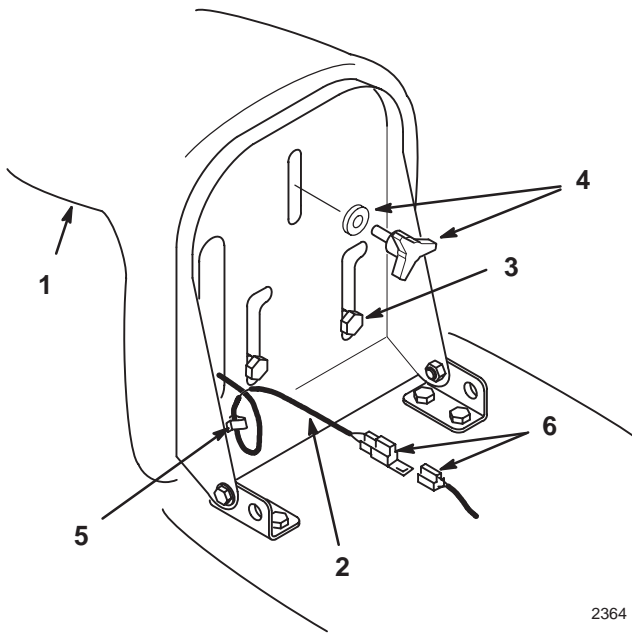

Figure 4
1. Insert the seat switch wire cable through the hole in the seat base (Fig. 4).
2. Position the seat onto the seat base by inserting the two shoulder bolts through the key hole openings at the end of both slots (Fig. 4).
3. Thread the knob and flat washer through the slot and into the rear center hole in the seat (Fig. 4). Adjust the seat and tighten the knob.
4. Push the seat switch connector fully into the wire harness connector (Fig. 4).
5. Secure the seat switch wire cable to the seat base with the wire clip (Fig. 4).